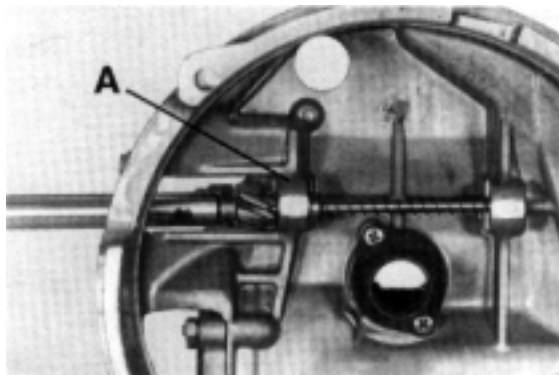

Figure 2
- Guide preassembled cutting tool into release lever shaft support bores (Figure 2).
— Use slow speed (approx. 500 rpm) electric drill to cut bearing support A in Figure 2.